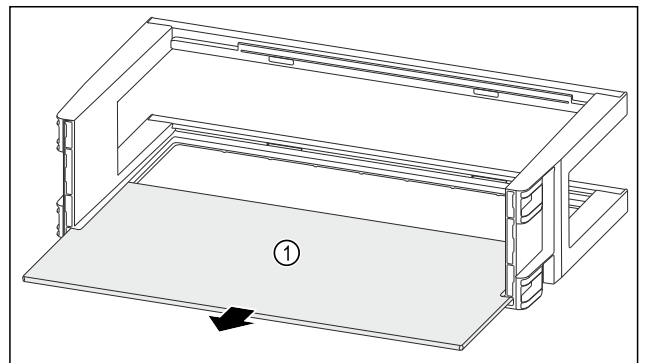

Fig. 140
- ▶ Remove the shelf Fig. 140 (1).